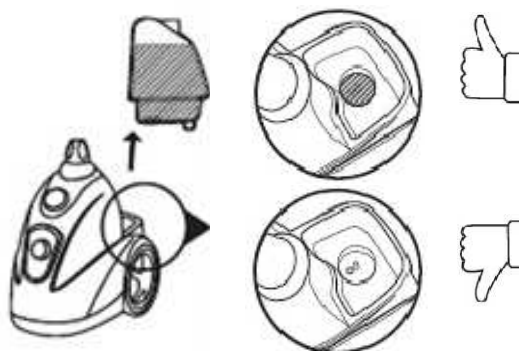

fig.13
**❗ Lift the water tank to make sure there is water in the reservoir. (fig.13)**